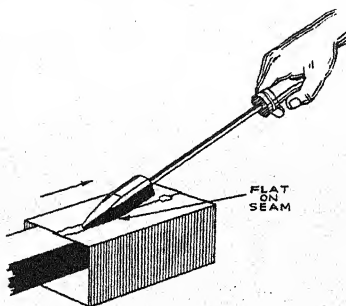

Figure 100. — Soldering a seam.
9. If the job is a seam, tack it together at enough places to hold the pieces in position (see figure 100).